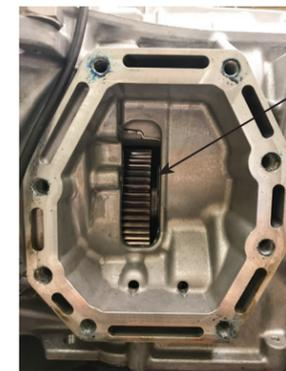
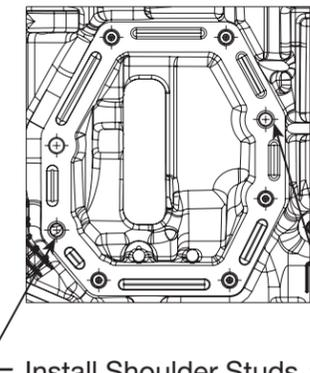

Fig. 4
Fig. 5
**4.** Remove and discard transmission PTO cover plate. Save the Ford gasket! It will be reused for the PTO installation. **Caution:** some transmission fluid may escape opening. Take care to keep contaminants out of transmission with cover off. Verify PTO gear is present. See Figure 4. From the PTO mounting kit, find shoulder studs (2 pieces), and install in the correct location. See Figure 5. Install finger tight. Stud will bottom out.